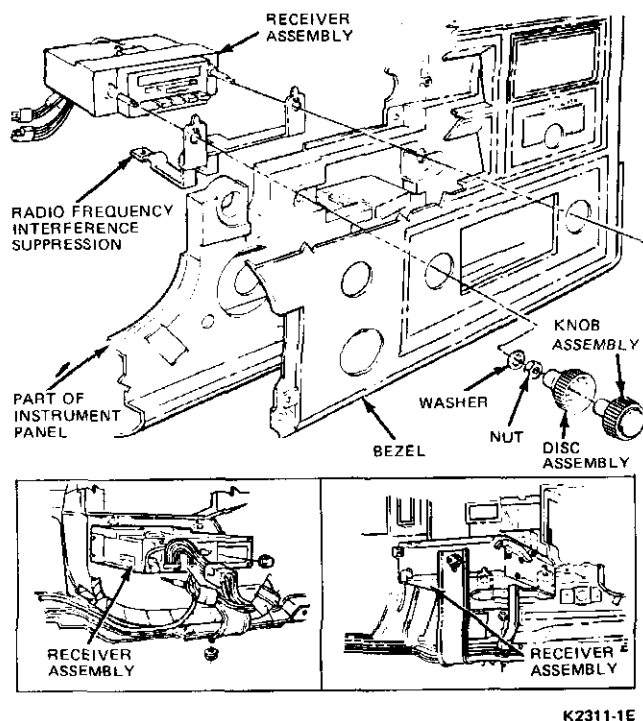

FIG. 8 Radio Installation—Continental Mark V
3. Remove the nut and washer from both radio control shafts (Fig. 8).